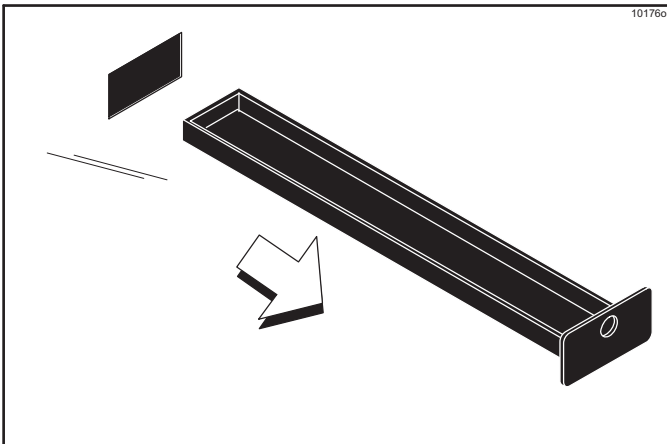

Figure 6-42
- Remove all drip pans. Take all parts removed in steps 1–8 to the sink for cleaning. (See Figure 6-42.)